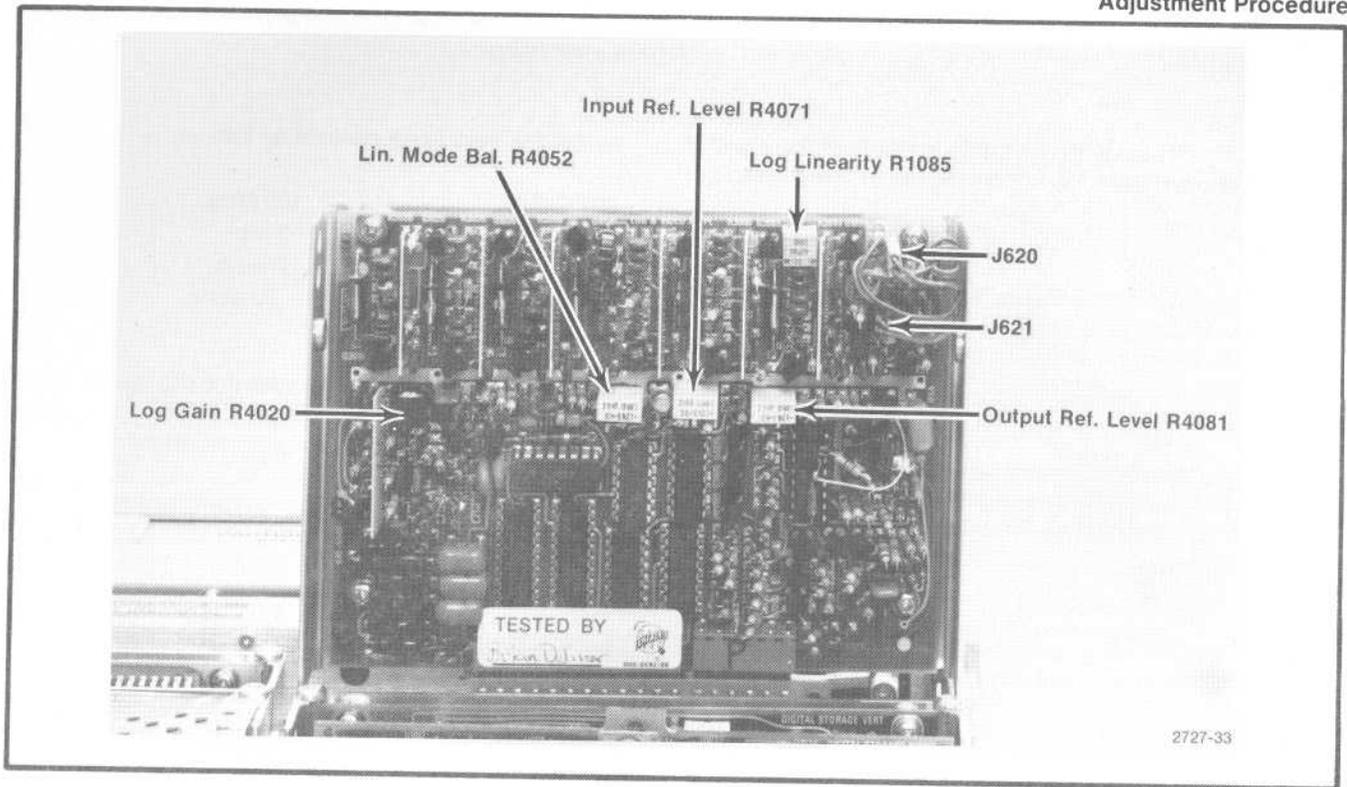

Fig. 3-35. Location of connectors and adjustments on the Log and Video Amplifier.
b. Remove P621 and apply a 10 MHz signal of 0 dBm from the signal generator, through 10 dB and 1 dB step attenuators, to the input of the Log Amplifier at J621 (Fig. 3-35). Set the step attenuators for 50 dB of attenuation.
e. Increase the step attenuators in 10 dB steps. Adjust Log Gain, R4020 (Fig. 3-35), so each 10 dB of change produces a division of change on the display.
g. Alternately switch the Vertical Display between 10 dB/DIV and 2 dB/DIV while adjusting Input Ref Lvl, R4071 (Fig. 3-35), for minimum amplitude change between the two displays.
j. Adjust Output Ref Lvl, R4081 (Fig. 3-35), for a full screen (eight divisions) display.
k. Switch to the 10 dB/DIV mode and set the step attenuators for 40 dB. Adjust Log Linearity, R1085 (Fig. 3-35), so the display is mid-screen.
s. Switch the Vertical Display to LIN and adjust Lin Bal, R4052 (Fig. 3-35), for a full screen display. Display amplitude of LIN, 2 dB/DIV, and 10 dB/DIV display should now be the same.
b. Connect the output of VR#2 to the input of the Log Amplifier assembly by connecting a cable from J682 to J621 (see Fig. 3-35).
l. Now disconnect the 10 MHz third converter signal (P693) from the VR#2 input and connect it to the input of VR#1 (J693), through the Seaelectro male-to-male adapter and coaxial cable. Connect the output of VR#1 (P683) through another Seaelectro male-to-male adapter and coaxial cable to the input of the Log Amplifier at J621 (Fig. 3-35).